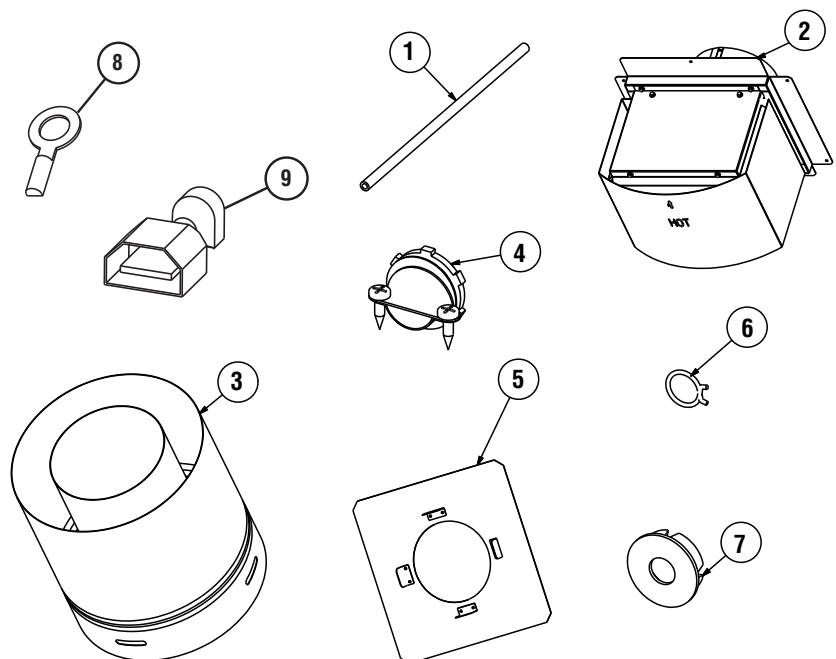

**Figure 16A - Flex Adaptor (87L00)**
**NOTE:** 87L00 and F4502 are required if using flex vent and is not provided in kit. Please see **Page 35** and **Figure 16A**):